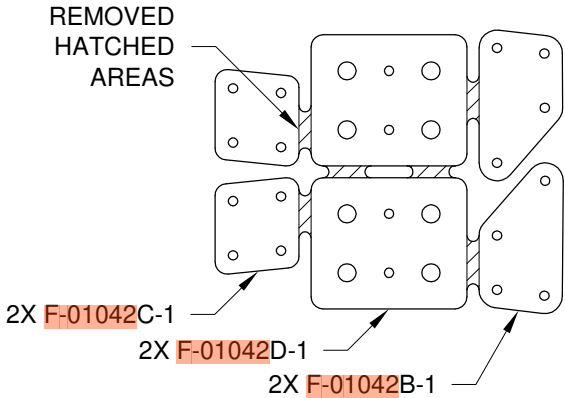

FIGURE 2: BREAK APART CLIPS & SPACERS
Step 2: Break apart the F-01042BCD-1 Clips and Spacers into individual F-01042B-1 Clips, F-01042C-1 Clips, and F-01042D-1 Spacers as shown in Figure 2.
Machine countersink the nutplate screw holes. See Page 13-3, Figure 2 for details of the countersunk hole.